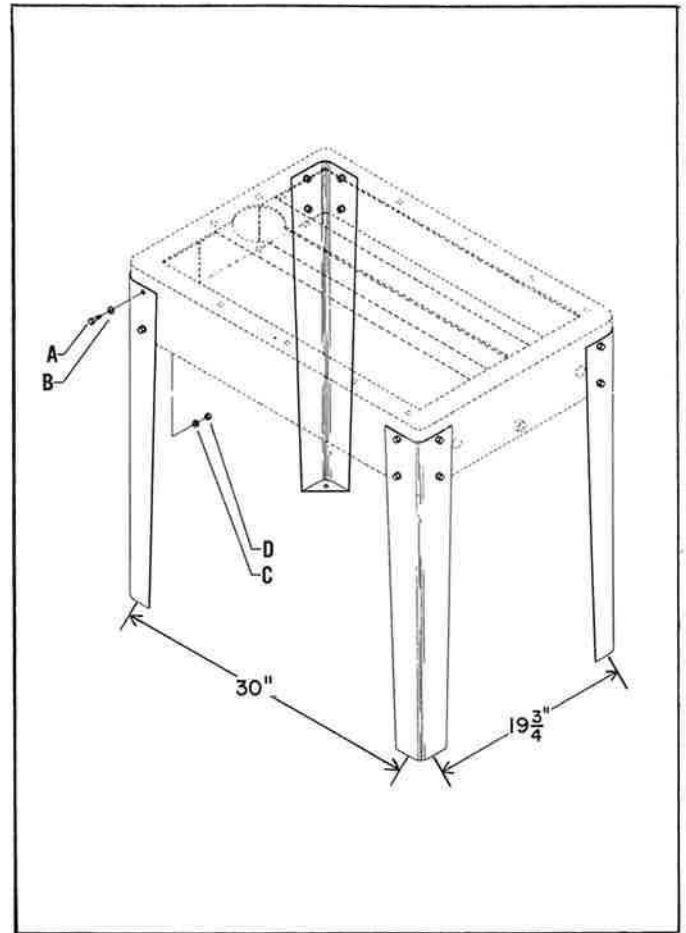

Fig. 2
1. Select a suitable location for the machine. It is desirable to locate the machine against the wall where it will be out of the way and will actually facilitate materials handling through the shop. Fig. 2 shows hole dimensions when the #50-104 legs are used.
1. The saw can be mounted on a bench of suitable height or if you purchased the Catalog No. 50-104 set of four steel legs, attach them to the frame of the saw using the sixteen $5/16-18 \times 3/4$ " hexagon head screws (A), washers (B), lockwashers (C) and hexagon nuts (D), as shown in Fig. 2.